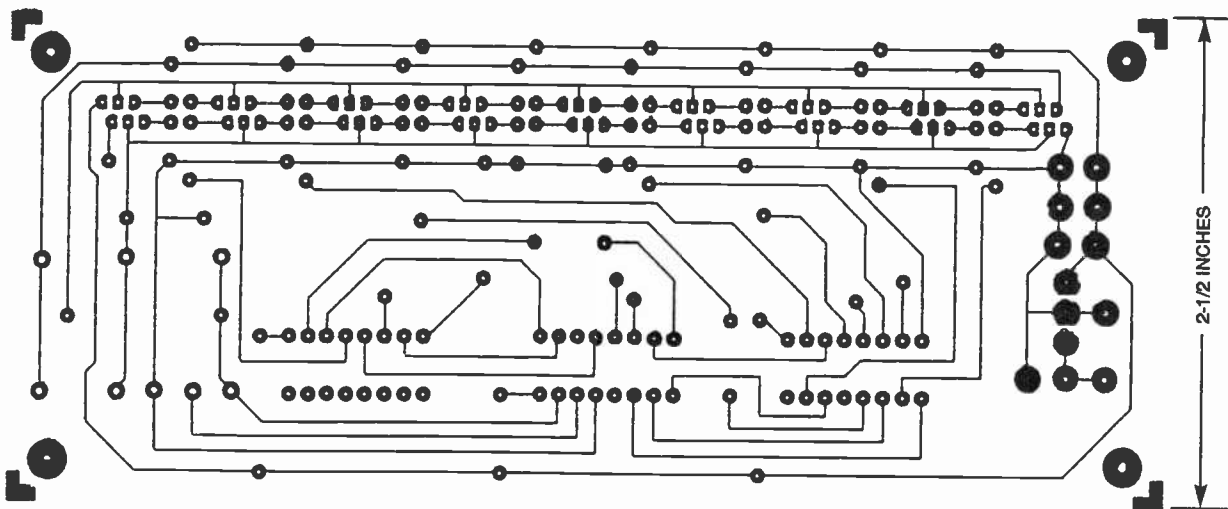

Fig. 3. The solder side of the controller board is shown here full size.
**Construction.** While any project-building method, even point-to-point wiring, can be used to build the Poller, the sheer volume of interconnections makes using printed-circuit boards almost a necessity. Figures 3 and 4 show the solder and component templates for a double-sided control board. The template for the keypad PC board is